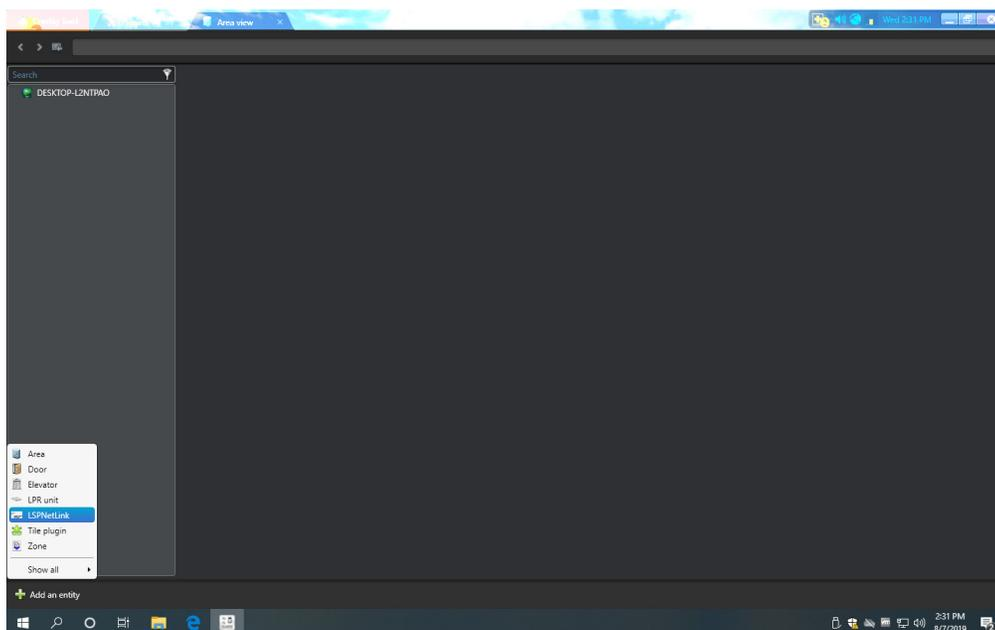

Figure 21
4. Open Genetec Security Center and navigate to Config Tool > Area View > Add an Entity and select LSPNetLink (Figure 21).